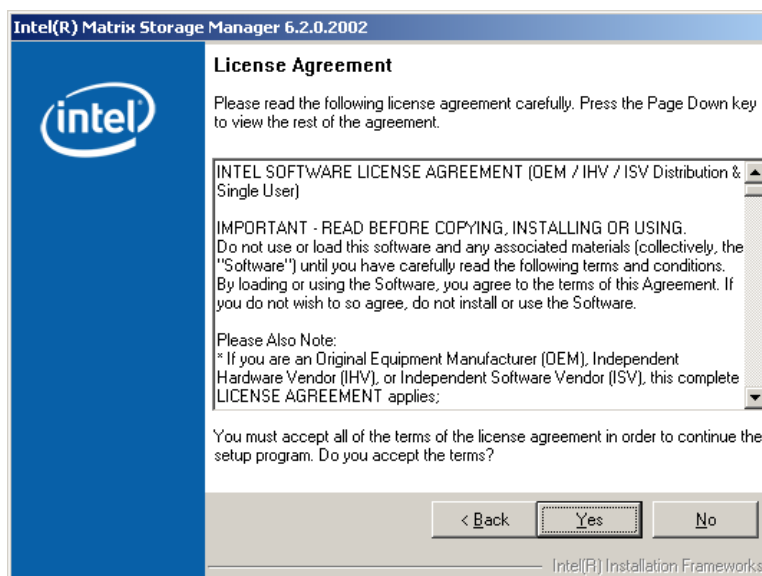

Figure 7-58: Matrix Storage Manager License Agreement
Step 9: Click **NEXT** and a license agreement appears (Figure 7-58).